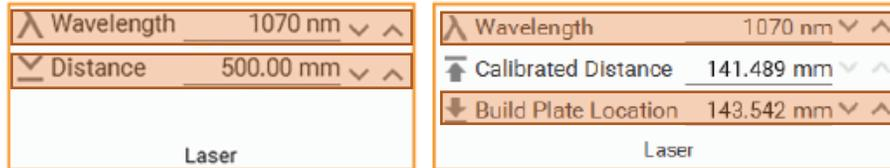

Figure 3: Required Fields in the Laser Panel for BeamWatch Standard and BeamWatch Plus (left); BeamWatch AM (right)
- Enter the required setup information in the **Laser** panel (Figure 3), see section 4.4.3.